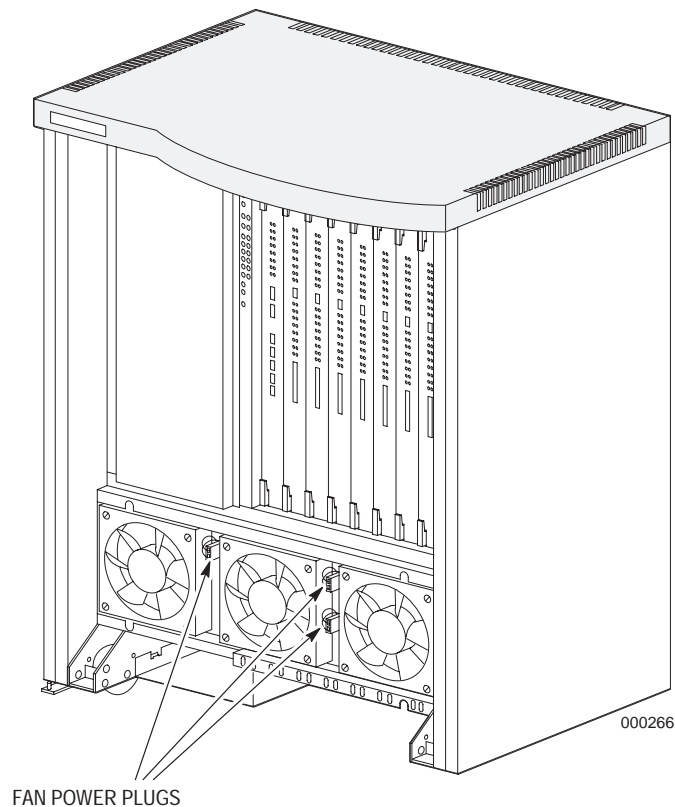

Figure 11-6. Fan Power Plugs on the Front of the Power-Distribution Tray.
6. Unplug the power cable for the defective fan from the appropriate fan power plug, as shown in Figure 11-6.